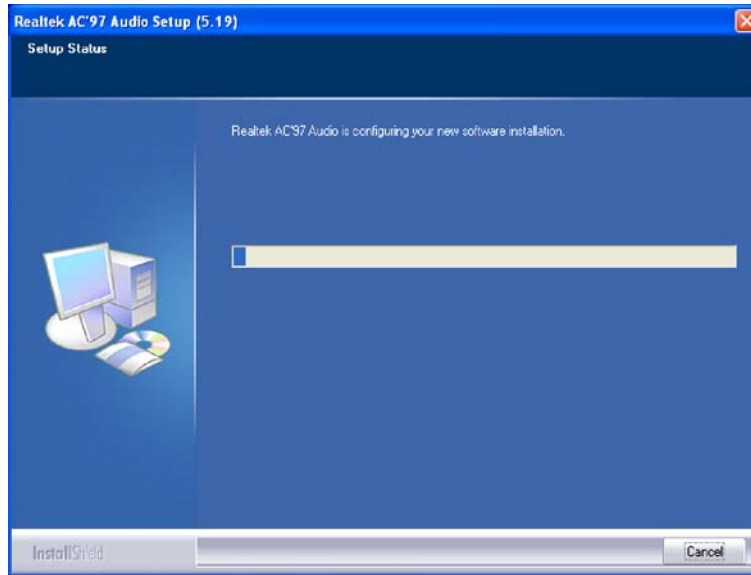

Figure 7-22: Audio Driver Software Configuration
Step 6: InstallShield starts to install the new software as shown in Figure 7-22.